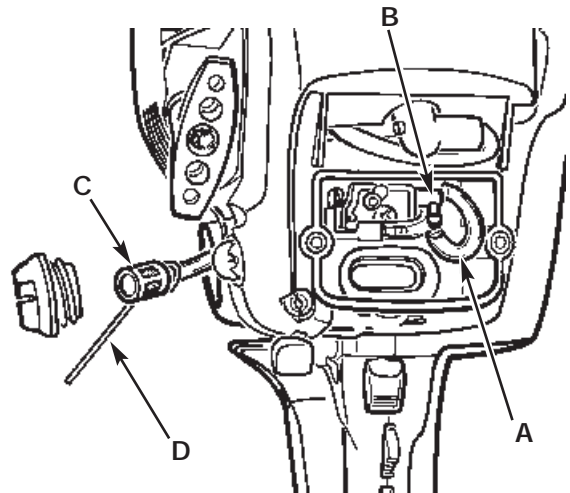

Fig. 32
2. Disconnect fuel hose (A) from carburetor fitting (Fig. 32).
3. Pull fuel filter (C) out of tank with a bent wire (D) or long needle nosed pliers. Disconnect filter and discard (Fig. 32).
5. Reconnect fuel hose (A) to carburetor fitting (B) (Fig. 32). Replace air filter and air box cover.